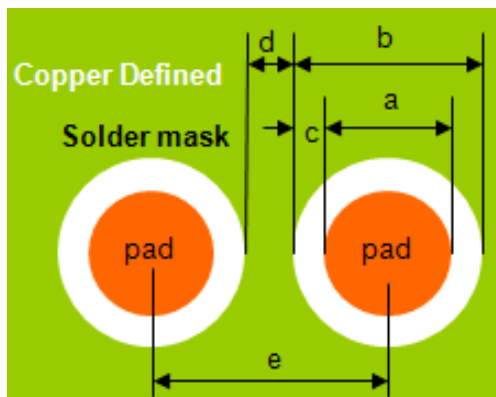

Figure 3-4 PCB solder mask illustration
- Design the solder mask opening by the rule of Figure3-4 and Table3-3.
建议参照图 3-4 与表 3-3 的规范进行防焊绿油开窗设计。